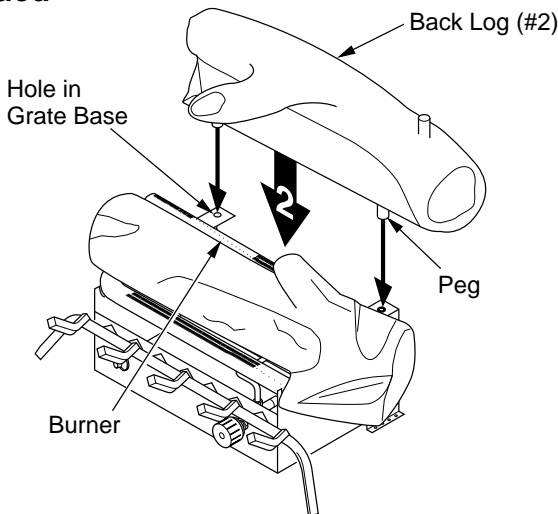

Figure 22 - Installing Back Log (#2)
2. Locate pegs on the bottom of back log (#2). Slide these pegs into the holes in the grate base behind the burner (see Figure 22, page 15).